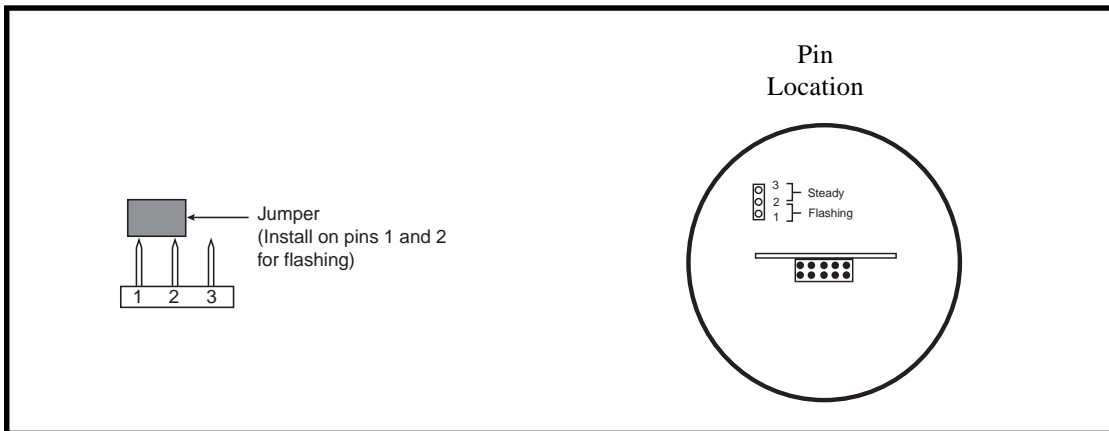

Figure 1. Installing the Jumper
If it is desired for the first light to illuminate flashing, install the jumper on pins 1 and 2 as shown in Figure 1. A contact closure will then cause the first light activated to illuminate flashing. If a second light is activated, the unit will cycle between the two selected colors. Likewise, a third activation will cause the unit to cycle between three colors: red, amber, green or red, amber, blue.
- b. Install the jumper on pins 1 and 2 (Figure 1) for PLC flashing. The unit is supplied with the jumper installed on pins 2 and 3 for a steady illumination.
- c. Replace lens on base and secure with (4) screws removed in step 1a.